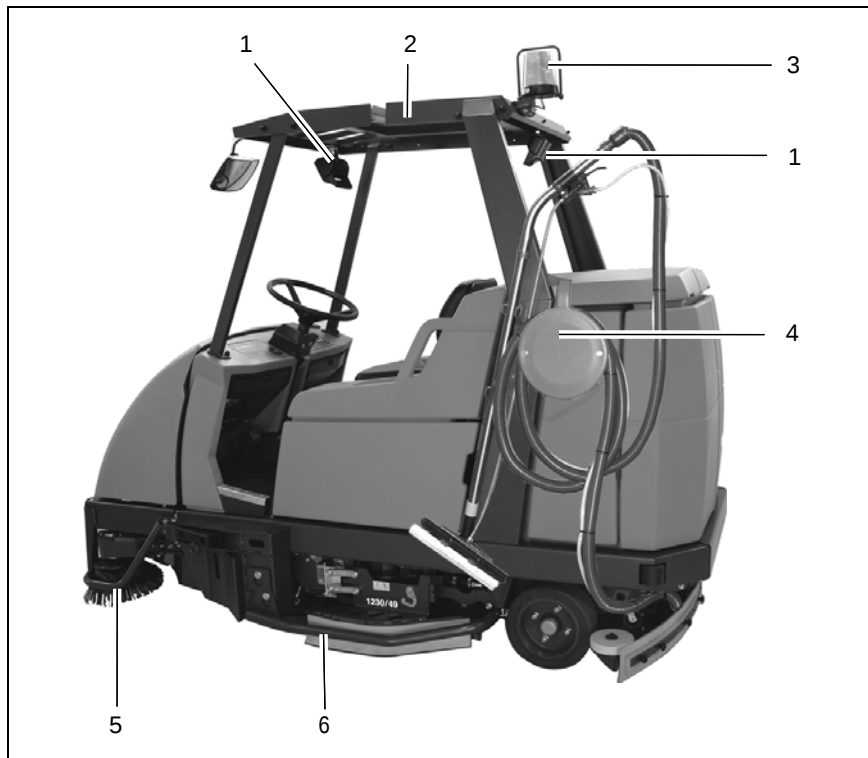

Fig. 19
(Fig. 19/1) (7584.02)
(Fig. 19/2) (7582)
(Fig. 19/3)
(Fig. 19/4)
- **Hand-held vacuum cleaner (Fig. 19/4)**
- **Side brush collision protection (Fig. 19/5)**
- **Side collision protection (Fig. 19/6)**